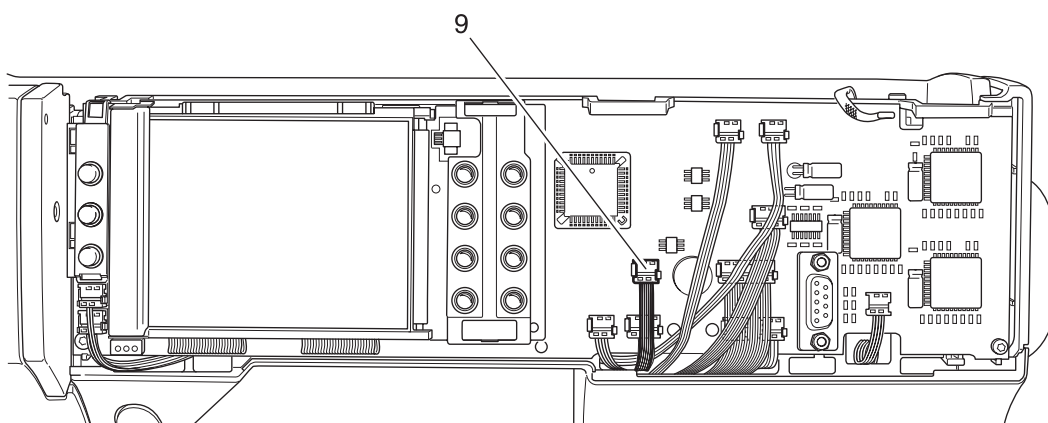

Fig. 6
- Remove the green connection plug 9 from the circuit board (fig. 6).